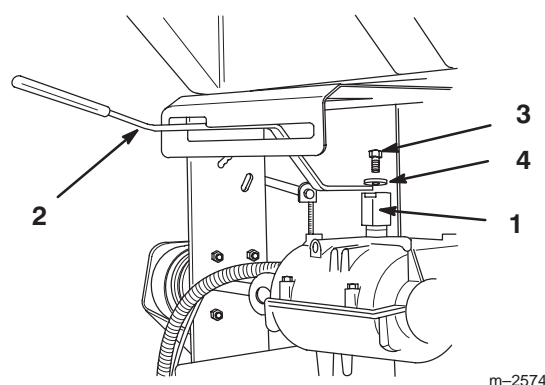

Figure 3
1. Align mounting block with flats of shaft on top of transmission and slide onto shaft (Fig. 3).